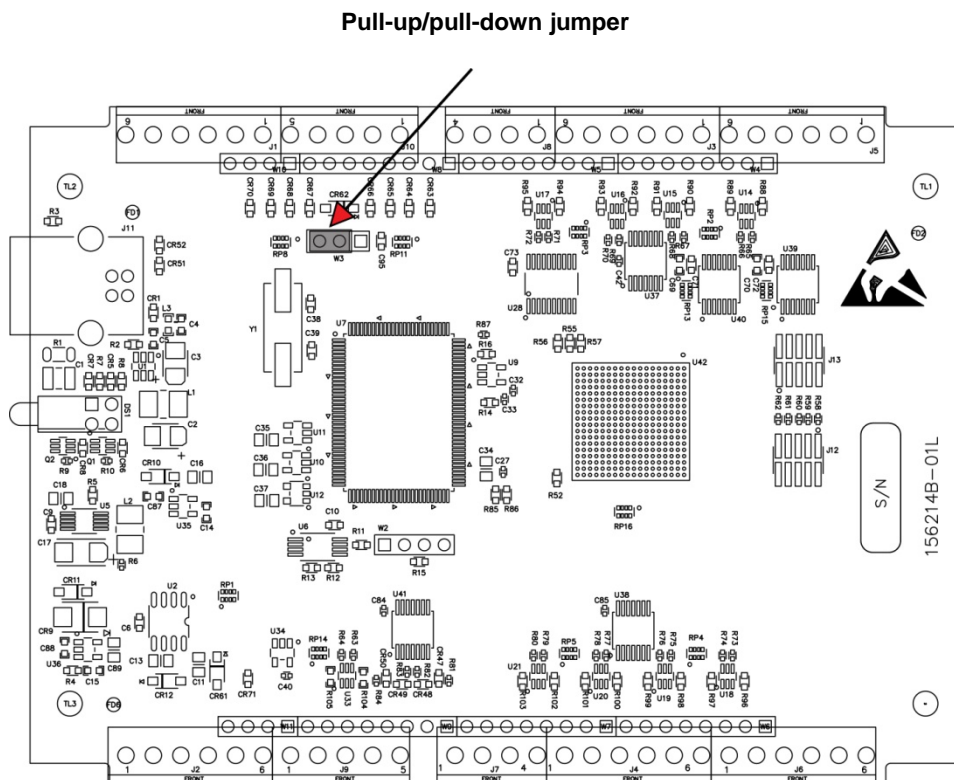
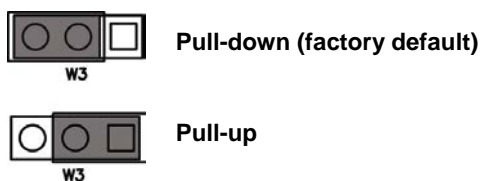

Figure 12. Pull-up/down jumper location
Figure 13. Pull-up/down jumper configurations
The digital port has 47 kΩ resistors that you can configure as pull-up or pull-down with internal jumper (see Figure 12 on page 16 for the location of this jumper).
5. Configure the jumper for either pull-up or pull-down. The jumper is configured by default for pull-down (see Figure 12 and Figure 13).
Figure 12 shows the location of the pull-up/down jumper on the USB-CTR08 with the enclosure removed.
The pull-up/down jumper is configured by default for pull-down (see Figure 13).